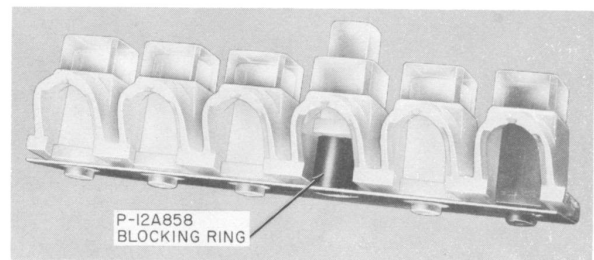

Fig. 5—Installation of P-12A858 Blocking Ring
- 3.13** All unused pickup key positions should be blocked inoperative by using a P-12A858 blocking ring. Install ring between key plunger and cover plate of button and collar assembly as shown in Fig. 5. One ring is shipped loose with these sets.